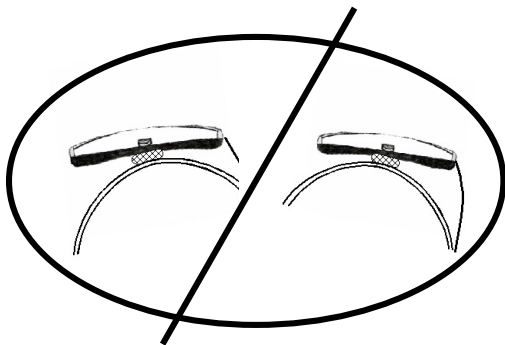

Fig 2 A
- 6. If mounting of Fig 2 must be utilized, there are several things that can be done to help stabilize the unit.